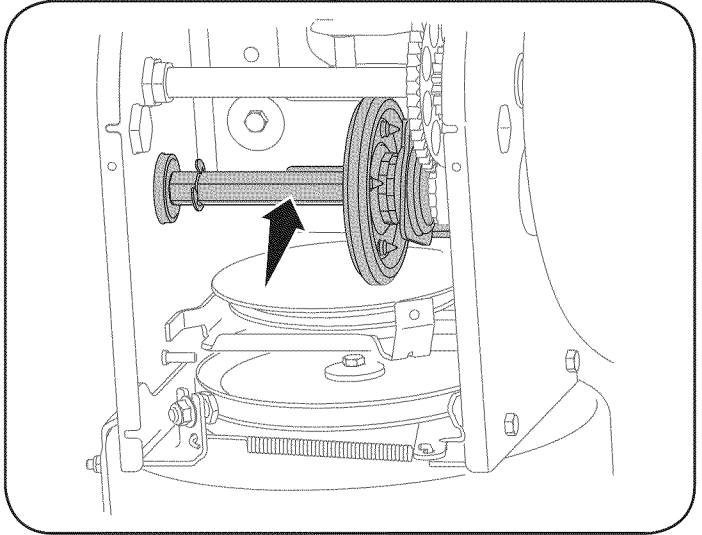

Figure 22
4. Apply a light coating of anti-seize to the hex shaft. See Figure 22.